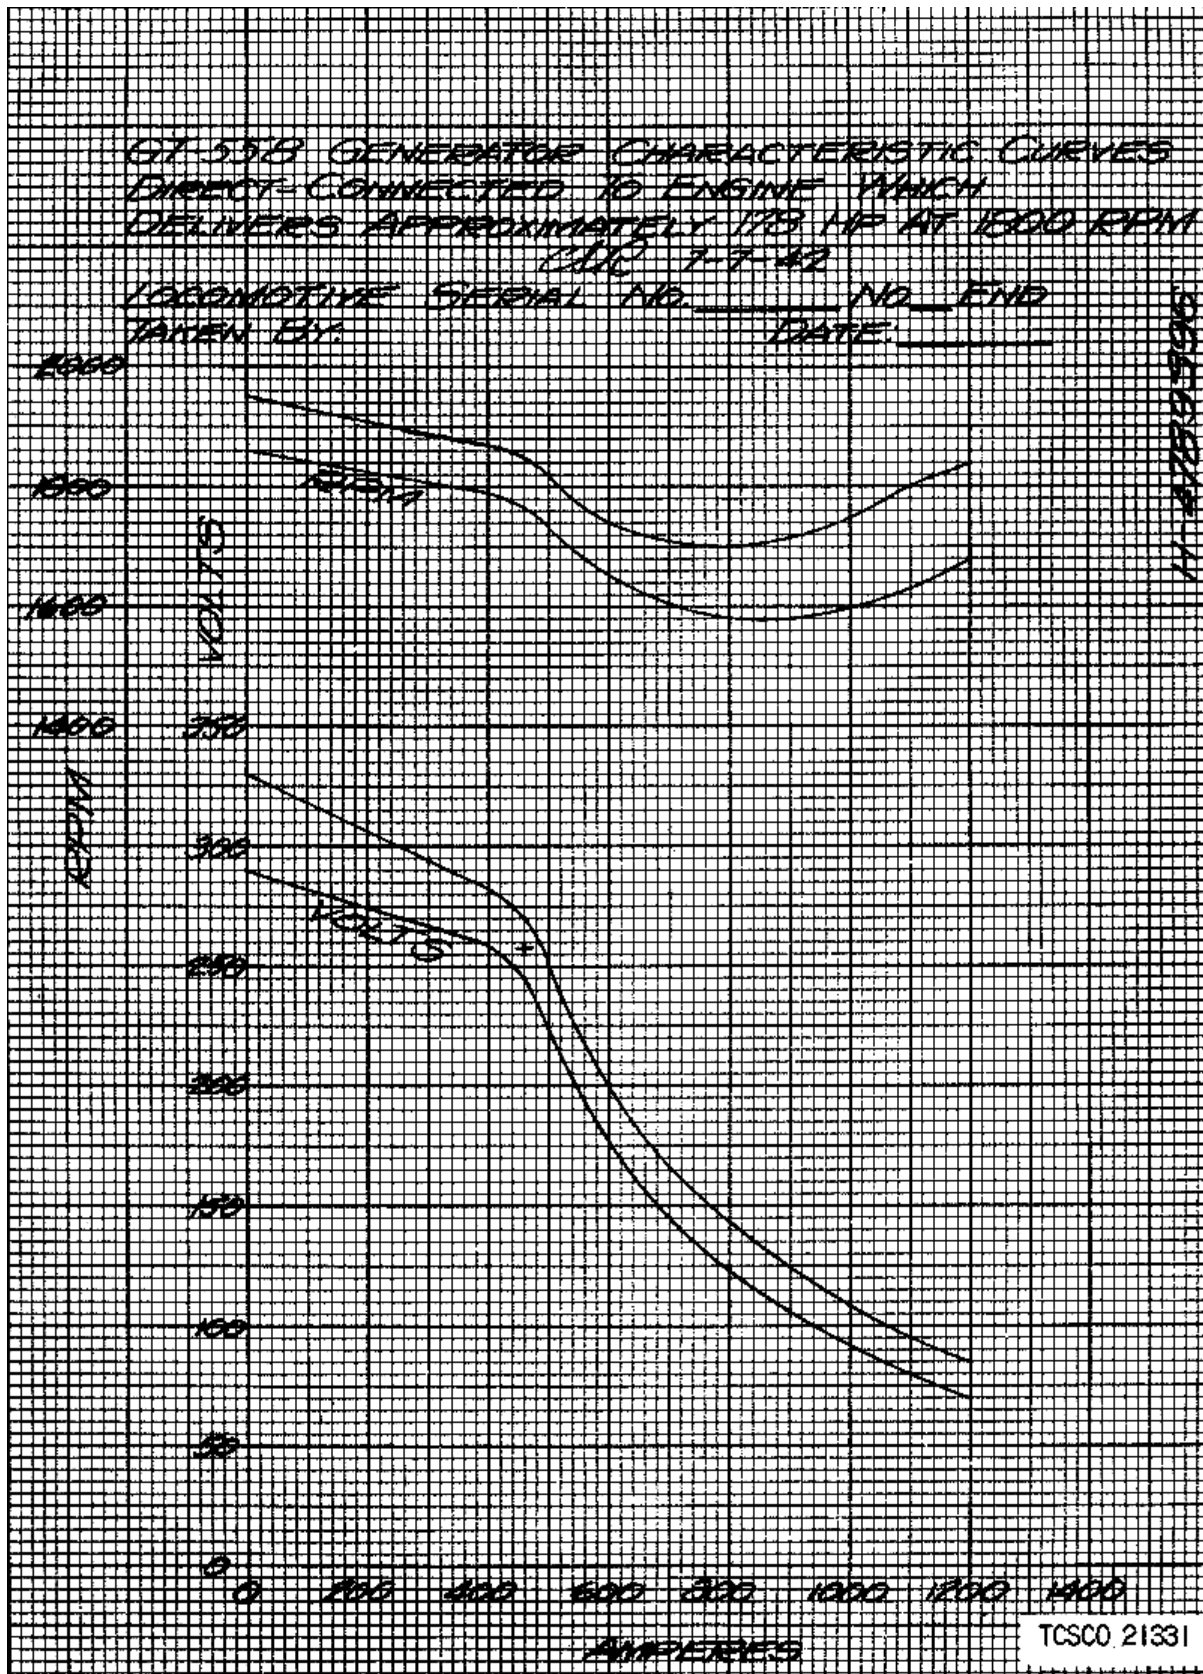

Figure 3. Characteristic curve scale, Generator GT-558.
*b.* When the locomotive is operated at full throttle, the power output of each power plant is in accordance with the generator characteristic curve (fig. 3) and is limited by the setting of the full fuel stop screw on the diesel engine fuel pump. However, at partial throttle positions, the power plant output, and therefore the locomotive performance, is determined by the locomotive throttle control system which provides varying degrees of generator excitation, together with the proper fuel setting at any position of the throttle handle and at the same time establishes the necessary electrical circuits for application of power to the traction motor or motors. At all partial throttle positions, it is important that, within limits, the individual power plants divide the total load equally.
- (1) Carefully observe all instructions pertaining to the operation of the locomotive power plants.
- (2) Make all test wiring connections tight and insure that they are well insulated. Any wires temporarily disconnected while making tests should be insulated and isolated so they cannot become grounded, or contact rotating equipment, control devices, or terminals.
f. After setting the external field resistors, take a full load curve beginning at 1200 amperes and decreasing to 0 amperes by approximately 200-ampere steps. Compare this with the generator characteristic curve (fig. 3).